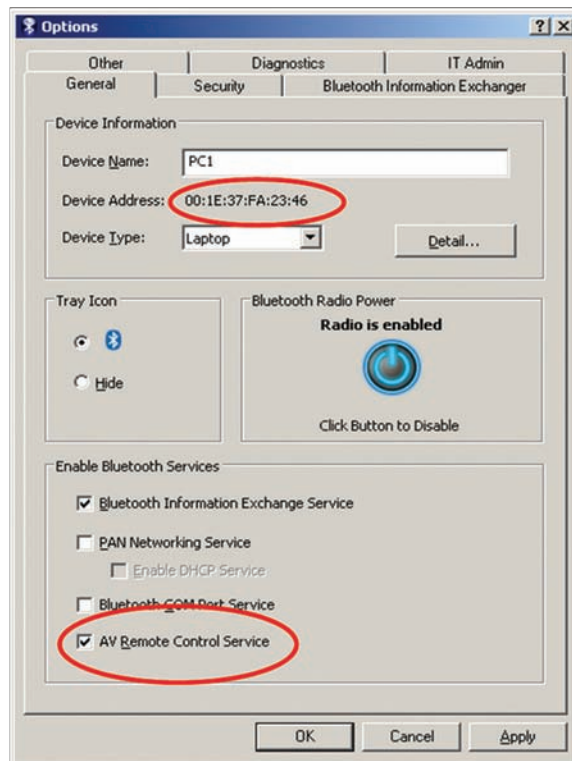

Figure 3.16: AVRCP Example 1 – Bluetooth Address of PC and AV Remote Control Service
The BTM5xx device is assumed to be connected to a terminal program, e.g., Ezurio Terminal on a PC. The sequence of AT commands and the instructions for the PC side are listed in Table 3.18. Figure 3.16 to Figure 3.21 show appropriate screenshots.
2.) Identify the PC's Bluetooth Address <BdAddr_PC> in the "General" tab of Bluetooth Options (Figure 3.16)
3.) Make sure that "AV Remote Control Service is enabled" (Figure 3.16)